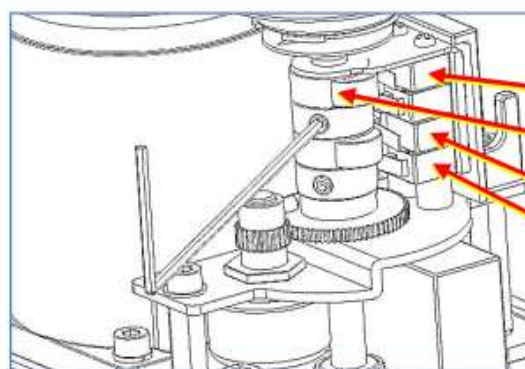

Figure 2: Open Cam Setting
- Rotate the OPEN cam CCW until the limit switch ‘clicks’ (see Figure 2 below)